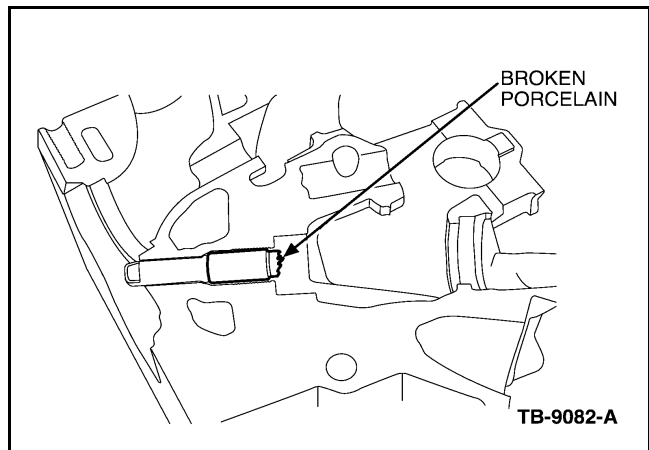

Figure 4 - Article 08-7-6
- c. Mode 3: The upper section of porcelain broke off with remaining porcelain left inside the ground shield. (Figure 4)